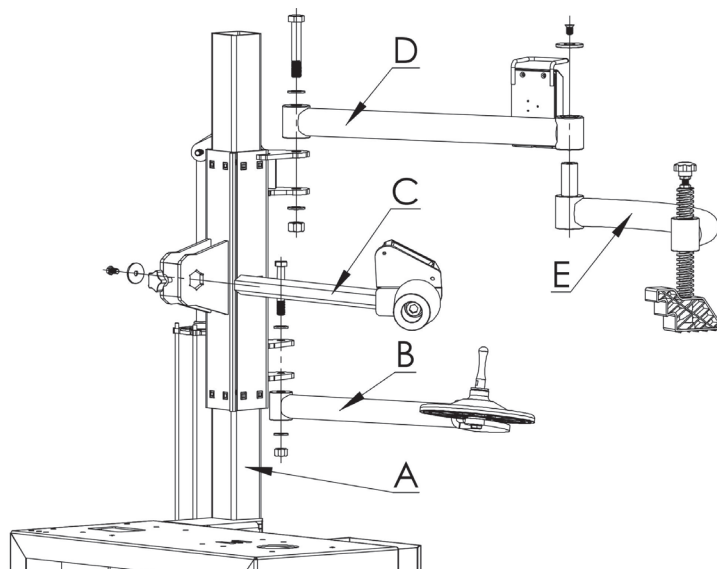

Fig.6
- As Fig.6, Install part B, part C, part E with wrench, screws and flat washers, make sure screws are fastened.